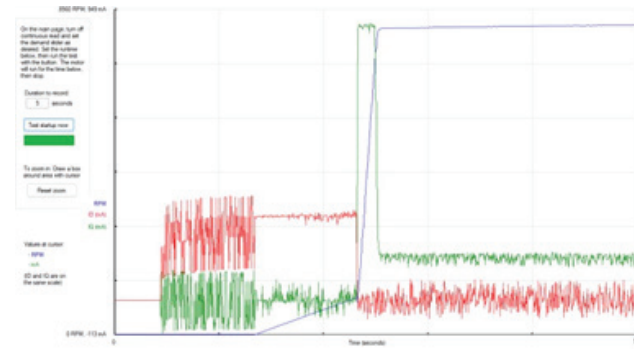

Figure 20: K_p Instabilities—GUI Plot (left) and Phase Current Plot (right)
- When K_p is too high, unstable PI controller action is observed in the D current, and oscillations around the current reference are observed on the phase current, as shown for $K_p = 4$, $K_i = 7$ in Figure 20.